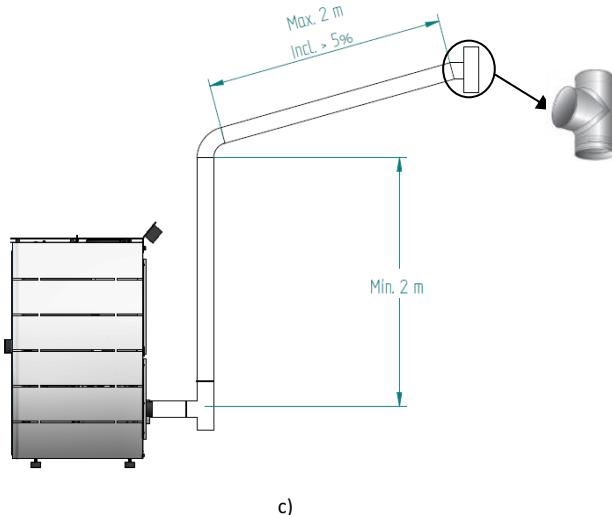

Figure 12 – Example of installations of type (a, b, c)
- The Figure 12 shows the basic requirements for stove chimney installation.